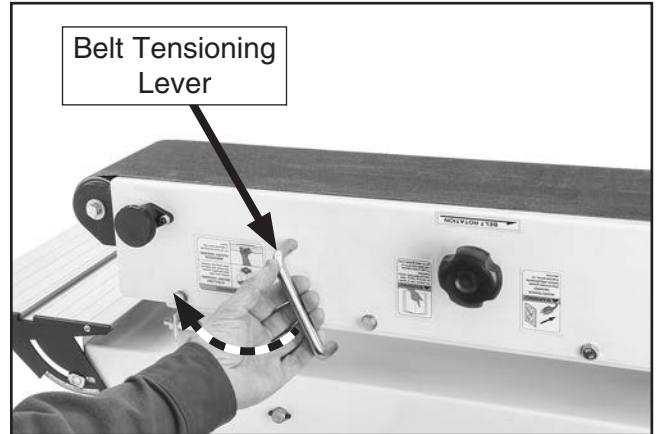

Figure 27. Releasing belt tension.
5. Release tension on belt by rotating belt tensioning lever clockwise, as shown in **Figure 27**.